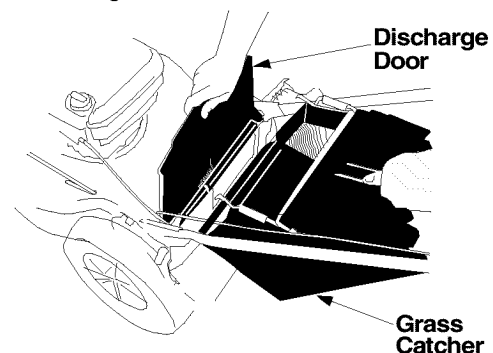

Figure 9
- Holding open the rear discharge door, place the grasscatcher on the pivot rod. Let go of the discharge door so that it rests on the grass catcher. See Figure 9 .